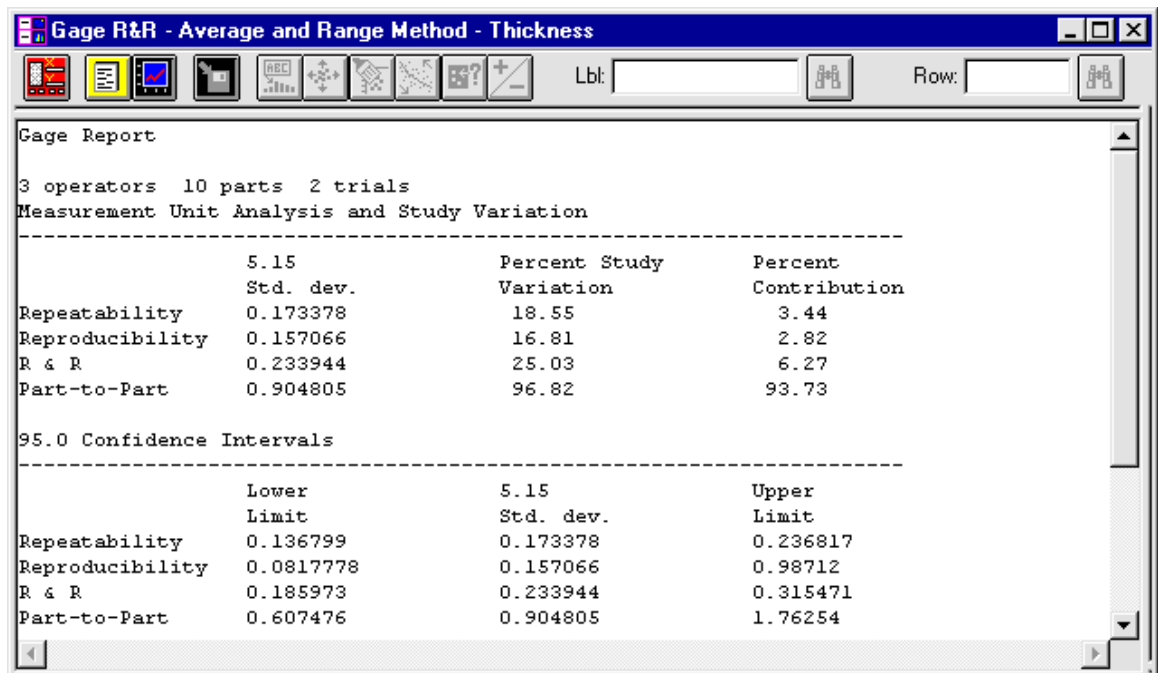

Figure 3-6. The Gage Report
7. Click the Tabular Options button to display the dialog box, then click the Gage Report option, and OK to display the Gage Report (see Figure 3-6).